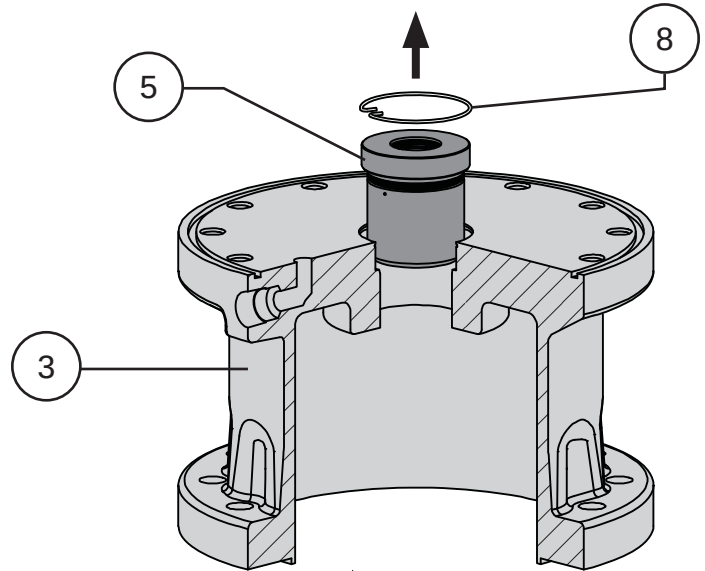

Figure 76 3220 SMHW Bushing Removal
- 11 Carefully remove the snap ring (Key 8) and remove the bushing (Key 5) from the spring case adapter (Key 3). Refer to Figure 76.